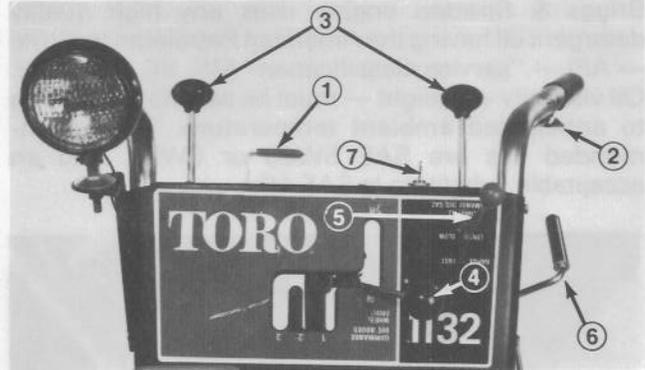

Figure 24
Auger Drive Control (Fig. 24) — Control has two positions: ENGAGE and DISENGAGE. To engage auger and impeller, pull control up slowly until it stops in an over center position. To disengage auger and impeller, pull control down.
Interlock Levers (Fig. 24) — One interlock lever must be compressed against handle grip(s) when auger or wheel drive control is engaged. The engine will shut off if both levers are released when auger or wheel drive control is engaged. This is a safety feature that reminds the user to disengage auger or wheel drive control before leaving operator's position behind the handles.
Wheel Clutches (Fig. 24) — Pull both wheel clutches out to get free-wheeling characteristic. By contrast, push both clutches in to get direct drive to both wheels. When one wheel clutch is pushed in and the other is out, direct drive will be to the wheel that has clutch pushed in, and the other wheel will be free-wheeling.
Wheel Drive Control (Fig. 24) — The control has five positions: N—neutral, R—reverse, 1, 2, and 3. To change speeds, move gear shift to position desired. Control must be held in R—reverse — when backing, and when it is released, gear shift automatically returns to neutral. Use positions 1, 2, and 3 depending on snow conditions. Keep interlock lever compressed when shifting.
Throttle (Fig. 24) — Move the throttle forward to increase engine speed.
Discharge Chute Control (Fig. 24) — Rotate discharge chute control clockwise to move discharge chute to the left and counterclockwise to move chute to the right.
1. Move auger drive control down to DISENGAGE (Fig. 24).
2. Move wheel drive control to N – neutral – and throttle to fast (Fig. 24).
5. Rotate ignition key to ON (Fig. 24).
2. To stop engine normally, move wheel drive control to N – neutral – auger drive control to DISENGAGE, throttle to SLOW and rotate ignition key to OFF (Fig. 24).